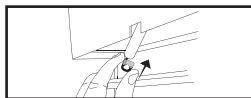

Figure 2.1; Slide Hook Sleeve onto Stem
If your blind has an open hook for the original tilt mechanism as opposed to a closed eyelet, slide the plastic SECURITY SLEEVE ① over the tilt hook to cover the hook's gap. Leave enough room for the E-Wand ① ATTACHMENT HOOK ② to securely connect [Fig. 2.1].